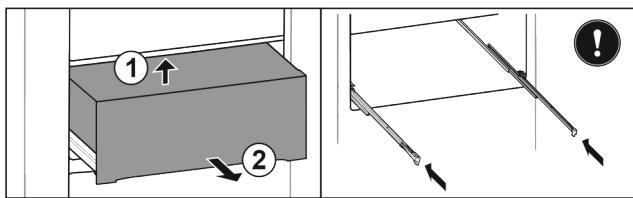

Fig. 38
- Lift it up at the back from below Fig. 38 (1).
- Take out to the front Fig. 38 (2).